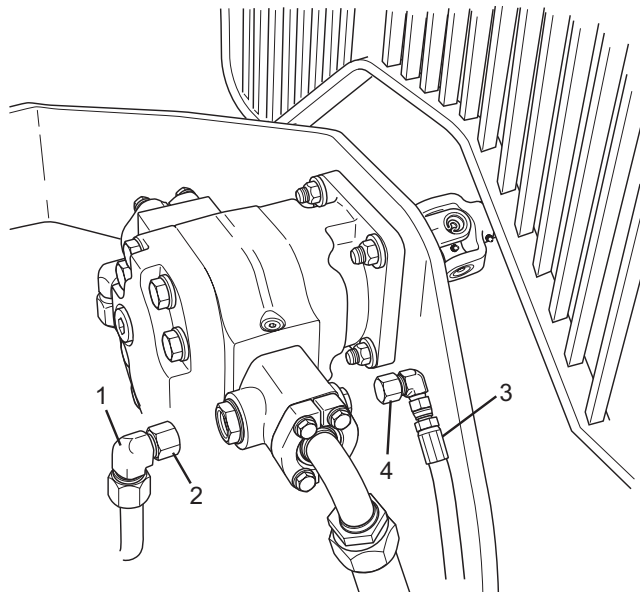

Figure 36
1. Remove regeneration line (Figure 36, Item 1) from flow control. Install cap (Figure 36, Item 2) on regeneration line.
2. Remove sense line (Figure 36, Item 3) from flow control. Install cap (Figure 36, Item 4) on sense line.